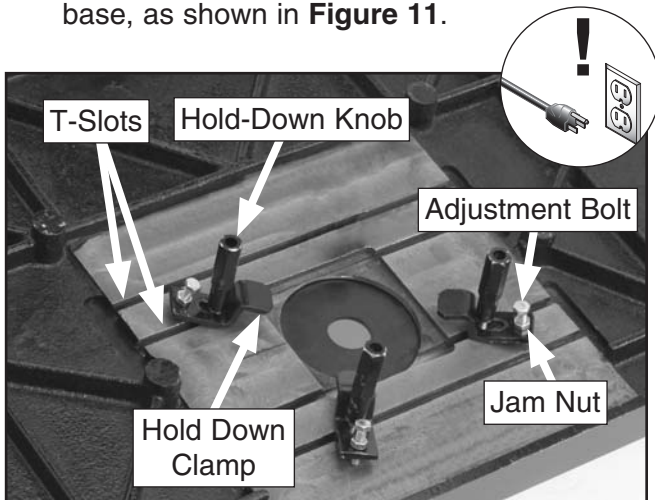

Figure 11. Router hold-down assembly controls.
2. Slide three of the router hold-down assemblies into the T-slots underneath the router table so that they allow room for the router base, as shown in **Figure 11**.